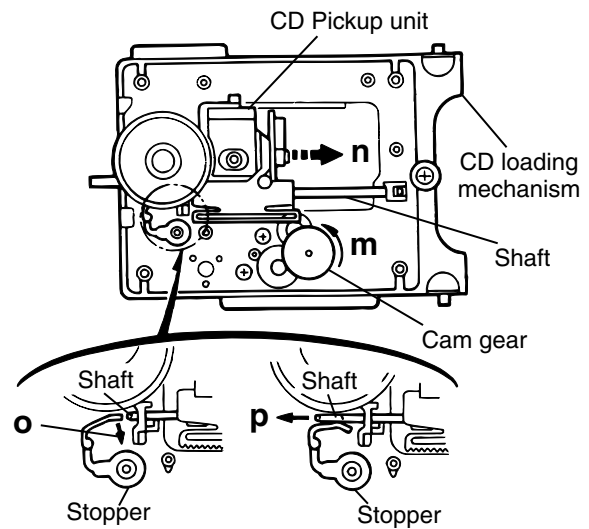

Fig.13
**Removing the CD pickup unit (See Fig.13 )**